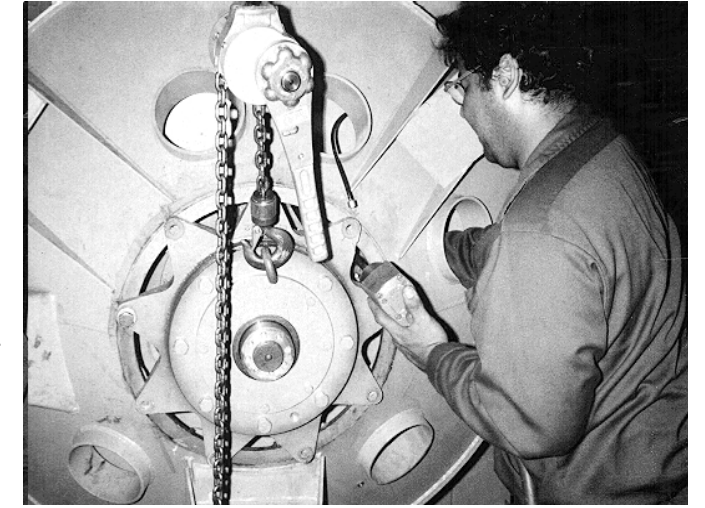

FIGURE 7 (MSSMA403AE)
3. Remove the top bolt from the bearing housing rear plate, install the 5/8" eyebolt as shown in FIGURE 7, and place the chain hoist hook through this eyebolt, and take up the slack in the chain.
2. Working through the access holes in the rear cone, remove the bearing housing mounting bolts from the center flange of the bearing housing. Refer to FIGURE 7.